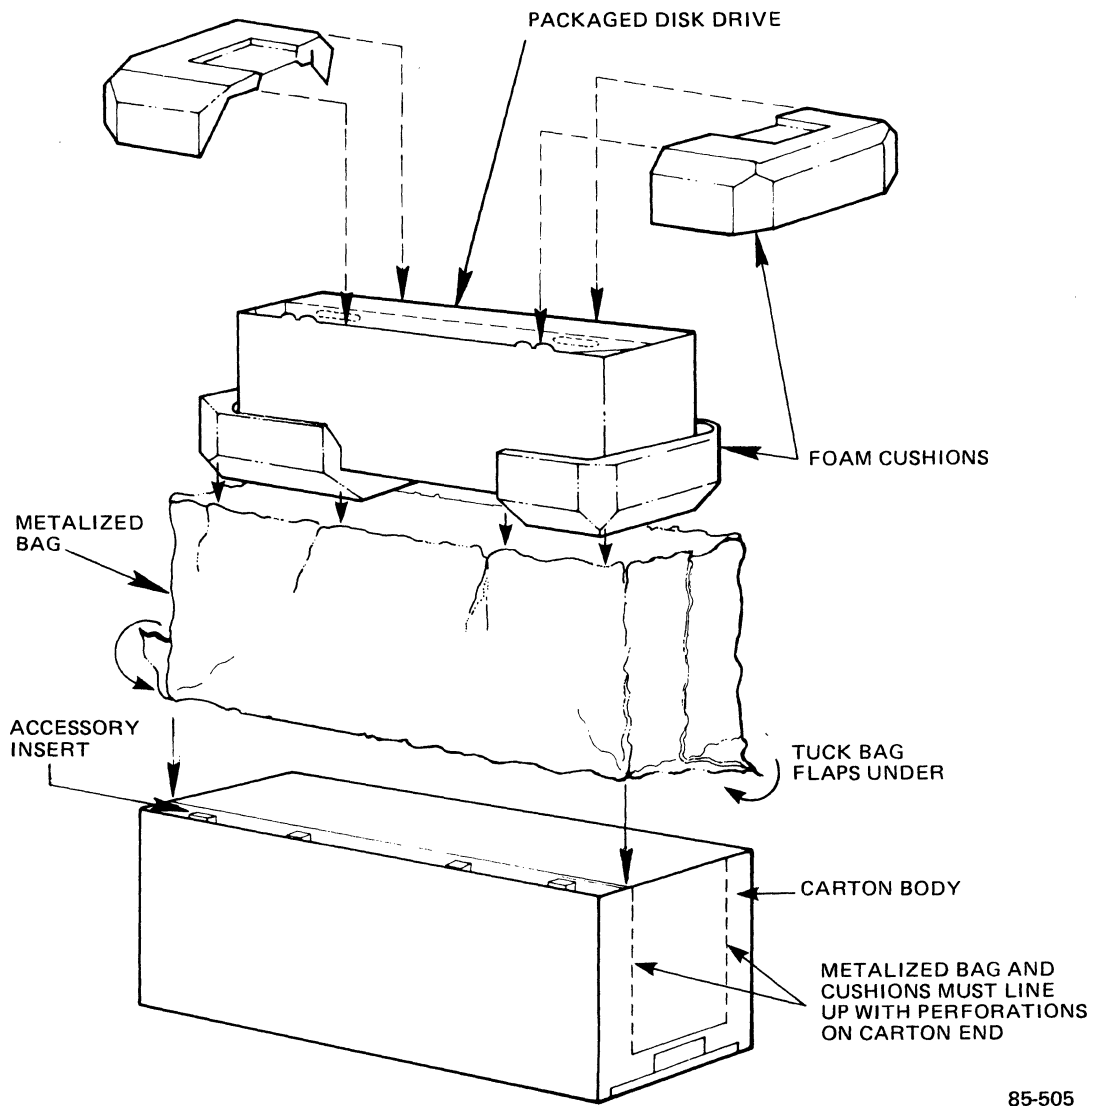

Figure 4-5. Placing the Disk Drive in the Carton
For steps 9 through 12, see Figure 4-5.
10. Place the bag into the carton, and tuck the flaps under as shown in Figure 4-5. Ensure that the bag and the cushions line up with the perforations in the carton.